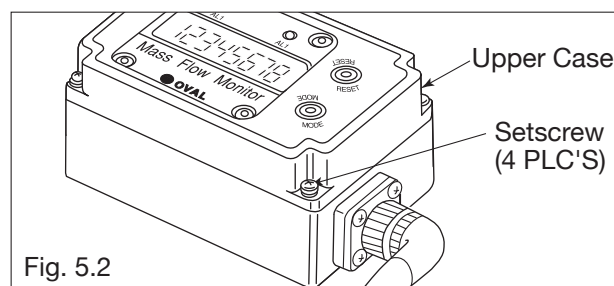

Fig. 5.2
- ① If power is supplied, turn it off. (Make sure nothing is displayed on the LCD).
- ② Remove the set screws ( $3 \times 14$ ) at the four corners that hold the upper case of the transmitter, and slowly open the upper case. (Fig.5.2)